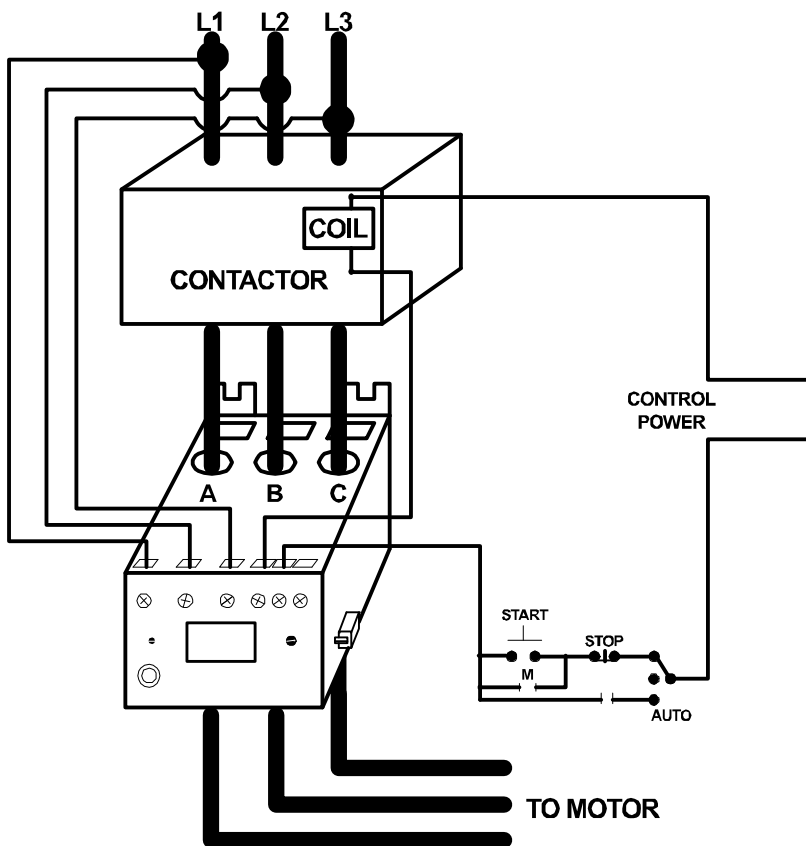

Figure 1: Typical Wiring Diagram
3. a) For amperages from 2.1-9.0 amps, insert the motor conductors through the holes marked A, B, and C. Ensure the motor phase conductors correspond with the round hole designations, i.e. the A phase conductor should go through the round hole marked "A". See Figure 1 for a typical wiring diagram.
- Connect the control circuit wires to the appropriate terminals. The relay is designed for fail-safe operation; the NO (normally open) contact should be in series with the coil on the contactor for motor control (see Figure 1). For alarm circuits, the NC (normally closed) contact is in series with the alarm circuitry.